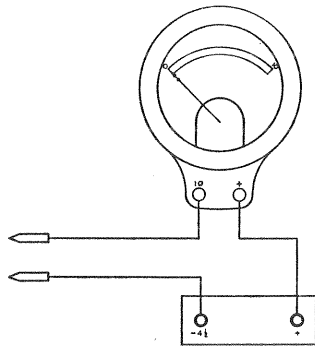

Fig. 11—Wiring Diagram Simple Continuity Test Circuit.
If the instrument is being connected to an antenna and ground installation which was used with a previous set, make a careful inspection of all lead-in and ground wires and connections to see that they are properly insulated and free from broken or corroded joints. Check the lightning arrestor, making sure that it is not grounding the antenna. This can best be accomplished by using a "C" battery in series with a low range voltmeter (see Fig. 11). With the antenna and lead-in wires disconnected from the arrestor, there should be no continuity between the antenna and ground terminals of the lightning arrestor.
- b. Open fuse in amplifier-speaker unit. Pull out wall plug, turn off switch, remove fuse cover, and examine fuse: if necessary make a continuity test with a D. C. voltmeter and a 4 1/2 volt "C" battery in series as shown in Fig. 11.